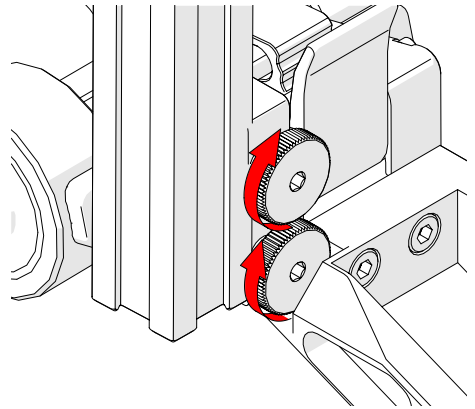

Fig. 36 - Tighten knobs
3. Tighten the two knobs to secure the frame bar in place (Fig. 36).